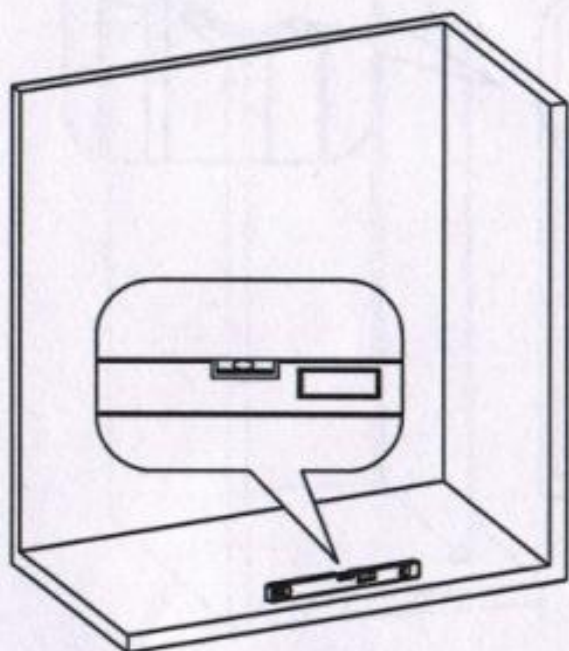

fig 1
1. Make sure the designated position horizontal. (fig 1)